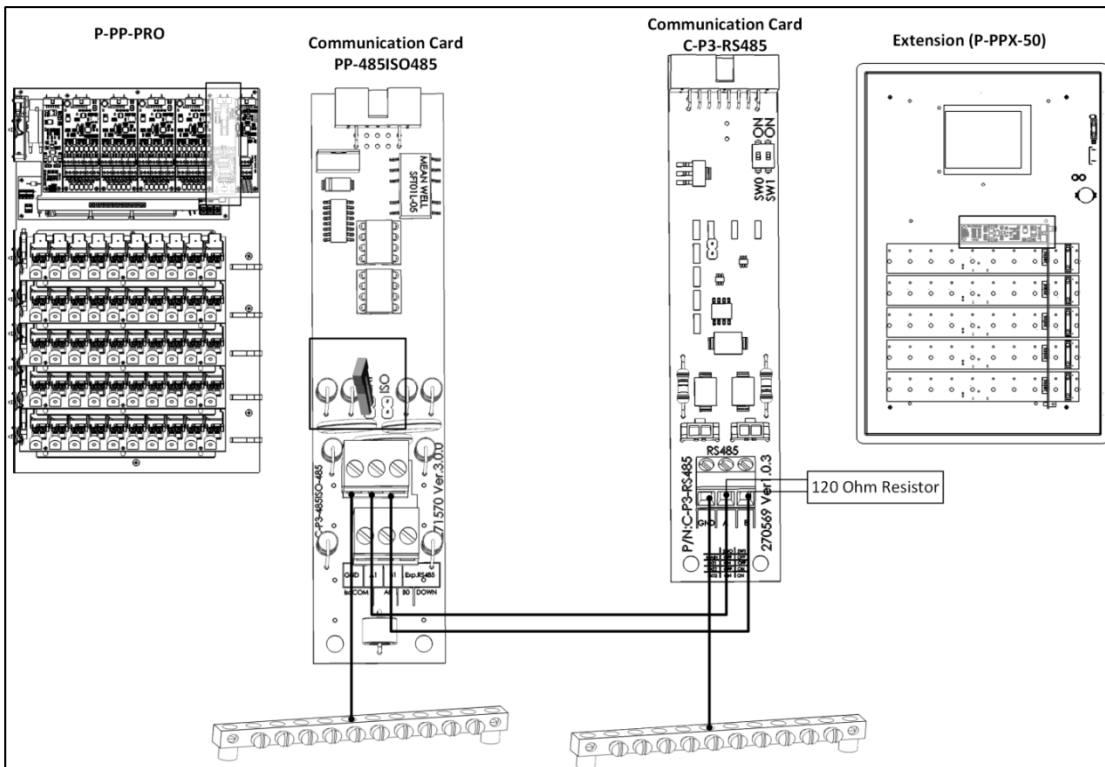

Figure 50: Expansion Box – Controller Termination
- If an Expansion unit is installed at the end of a chain, install a 120 Ohm termination resistor (supplied by Munters) (Figure 50).